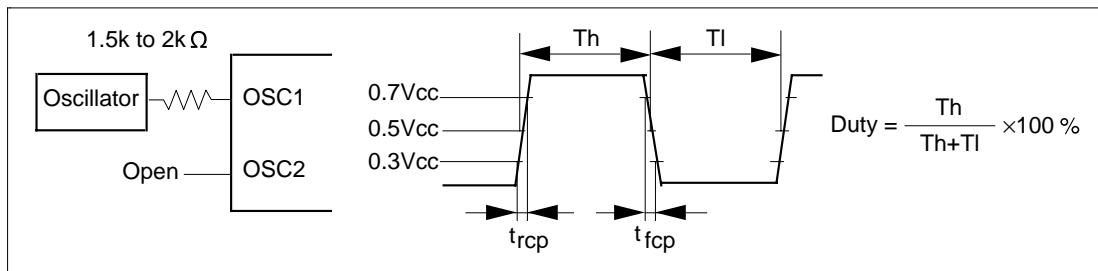

Figure 43 External Clock Supply
10. Applies to the external clock input (figure 43).